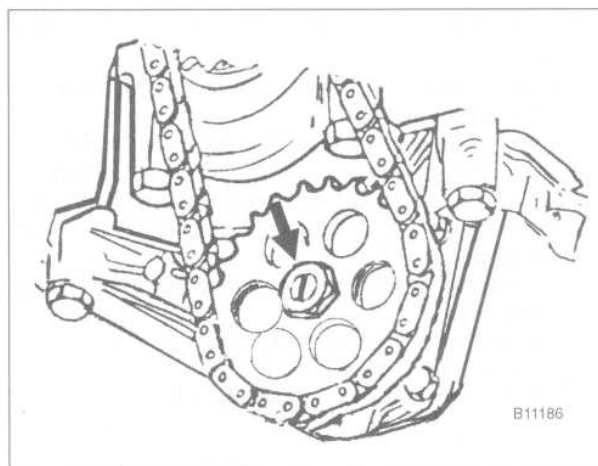

Fig. 10. Oil pump sprocket mounting nut on M50 engine. Oil pump sprocket on M30 and M60 engine is similar.
2. On M30, M50 and M60 engines, remove the oil pump sprocket mounting nut. See Fig. 10. Lift the sprocket off together with the drive chain.